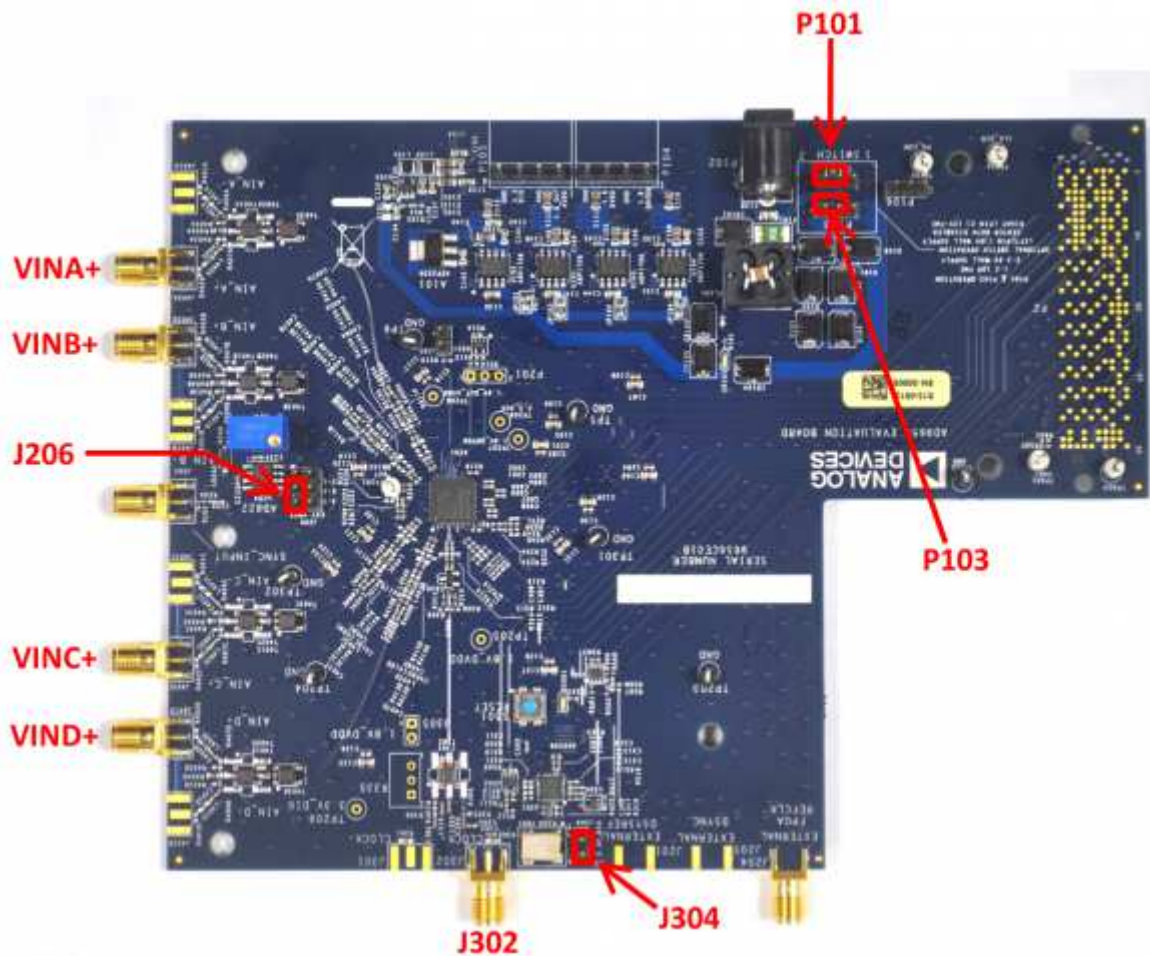

Figure 2. Default Jumper Connections for *AD9656EBZ* Board
2. On the ADC evaluation board, confirm that the jumpers are installed as shown in Figure 2.
Set the jumper settings/link options on the evaluation board for the required operating modes before powering on the board. The functions of the jumpers are described in Table 1. Figure 2 shows the default jumper settings.
J206	<p>This jumper selects between internal V_{REF} and external V_{REF}. To choose the ADC's internal reference, connect Pin 3 (DUT_SENSE) to Pin 5 (GND) as shown in Figure 2. The default value of the internal reference is 1 V. SPI Register 0x18 Bits[7:6] can be used to program the internal reference voltage to values from 1 V to 1.4 V, in 0.1 V increments. Register control is accomplished with SPIController software, which is discussed below in the Setting up the SPI Controller Software section.</p> <p>To use the on-board AD822 buffered reference, connect Pin 2 (DUT_SENSE) to Pin 1 (AVDD), and connect Pin 4 (DUT_VREF) to Pin 6 (EXT_REF). Adjust external VREF to the desired value (from 1.0 V to 1.4 V) using potentiometer R247.</p> <p>To apply a reference voltage from an external off-board source, connect Pin 2 (DUT_SENSE) to Pin 1 (AVDD) and apply the reference voltage to Pin 4 (DUT_VREF). The AD9656 reference voltage is specified to be from 1.0 V to 1.4 V.</p>